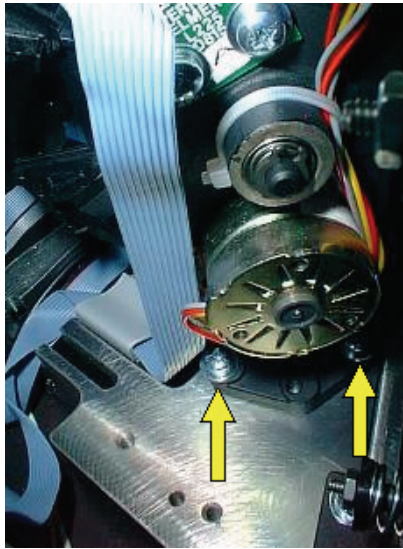

Figure 100 Excitation wheel screws
4. Undo the two screws and remove the excitation filter wheel, as shown in Figure 100.